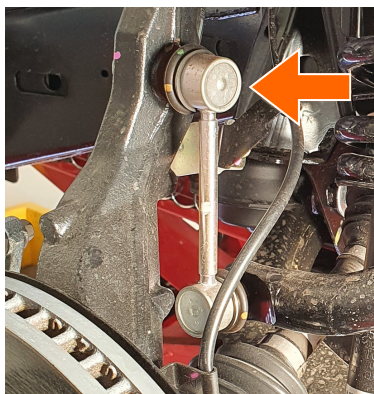

Fig. 2: Sway bar end link.
3. Disconnect the sway bar end link on both sides of the vehicle (Fig. 2).